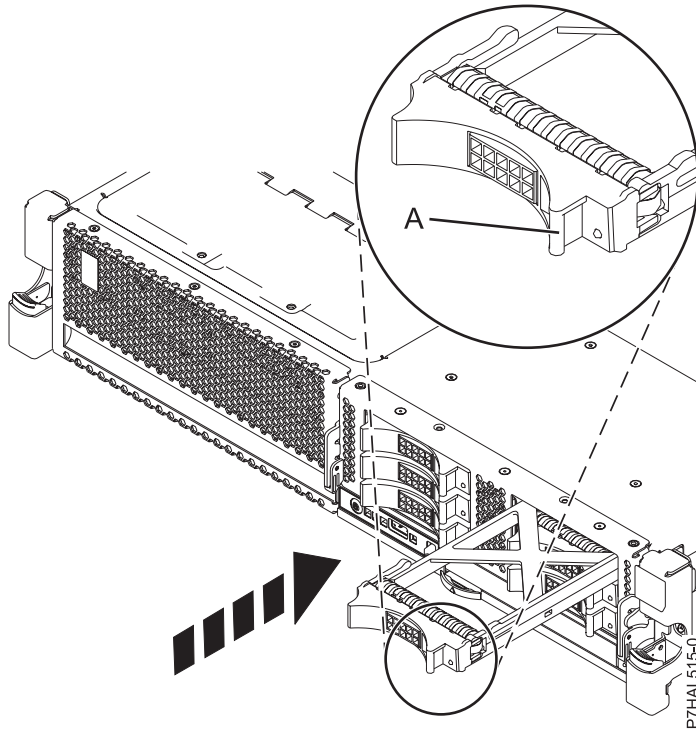

Figure 32. Installing a disk drive filler
2. Slide the disk drive filler all the way into the system or expansion unit, and push the disk drive filler handle **(A)** until it locks, as shown in Figure 32 on page 55.